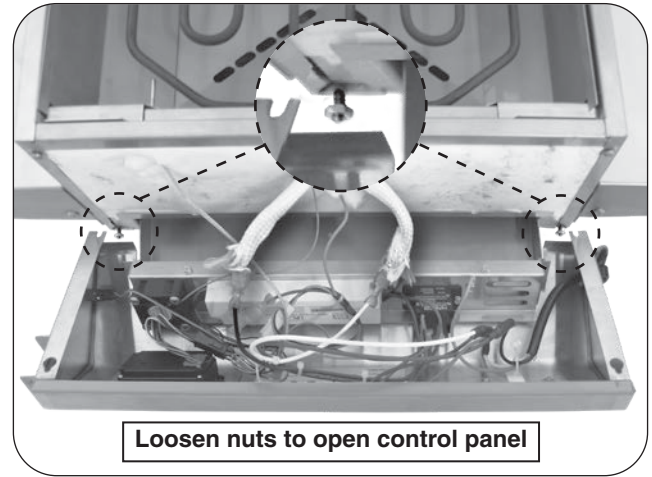

Fig. 22-1 Remove control panel
4. Loosen the nuts underneath the control panel with a 11/32" wrench, then lift the panel until it is freed from the screws. Carefully rest the panel on the drip tray. Reference Fig. 22-1.